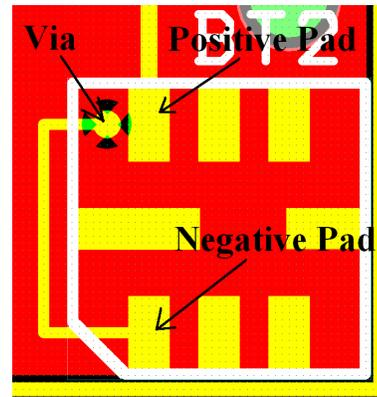

Figure 2. PCB traces resulting in a low resistance leakage path.
- In the example in *Figure 2*, the negative connection is routed from the negative pad to a via placed under the package near the positive pad. In this scenario, solder flux residue can wick from the positive solder pad, covering both the positive pad and the via, resulting in a high resistance current path. This current path will make the cell appear to be defective or make the application circuit appear to be drawing too much current.